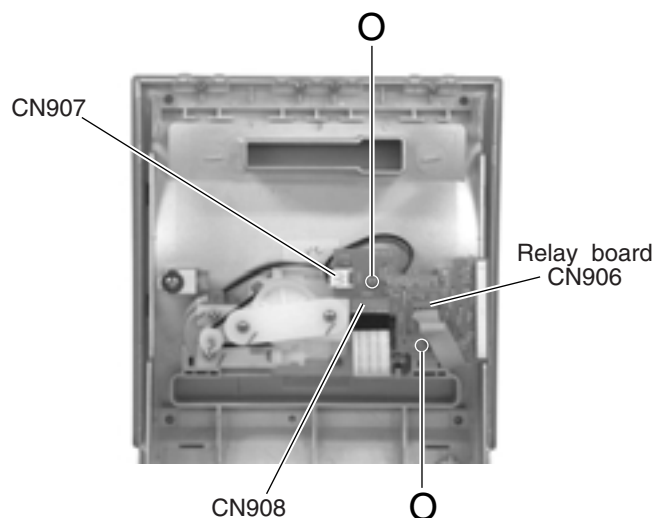

Fig.24
■ Removing the relay board (See Fig. 24)